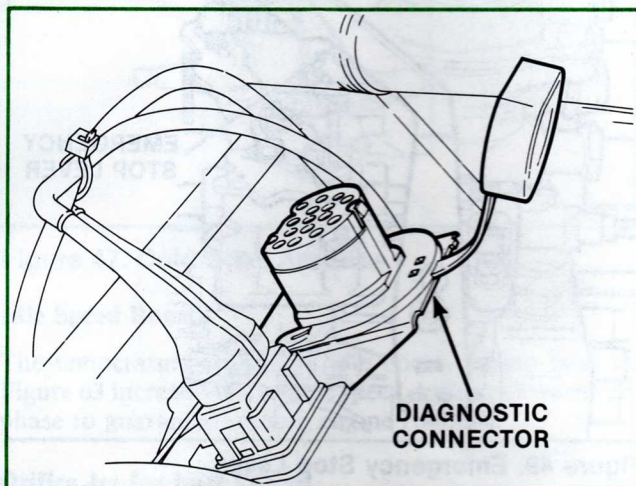

Figure 53. Diagnostic Connector
**NOTE:** The 2.4L diesel engine is equipped with a diagnostic connector (Fig. 53) for use in checking engine rpm and setting dynamic timing. It is used in conjunction with the Rotunda dynamic timing meter (part no. 078-00100) and a special adapter specifically designed for the 2.4L diesel engine (078-00117).